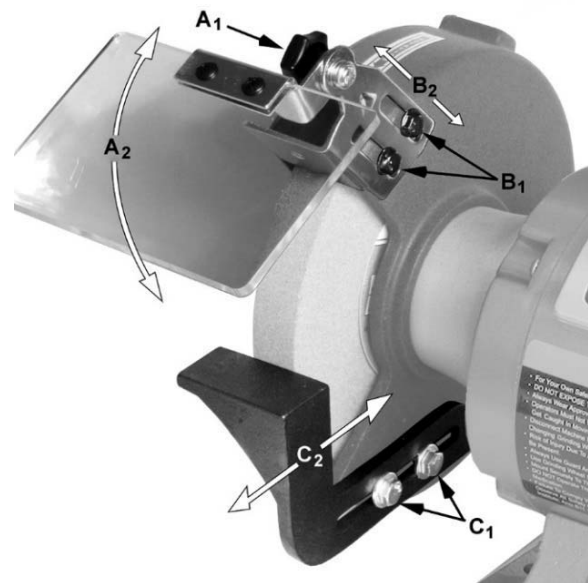

Figure 3
1. Loosen *lock knob* (A₁, Fig. 3).
2. Adjust *eye shield* to the desired tilt angle (A₂, Fig. 3).
1. Loosen two *hex cap screws* (B₁, Fig. 3) with a 10mm wrench.
2. Slide the spark guard (B₂, Fig. 3) to 1/16" distance from the grinding wheel surface.
3. Tighten screw (B₁, Fig. 3).
1. Loosen two hex cap screws (C₁, Fig. 3) with a 12mm wrench.
2. Slide the tool rest (C₂, Fig. 3) to a distance of 1/16" from the grinding wheel.
3. Tighten screws (C₁, Fig. 3).